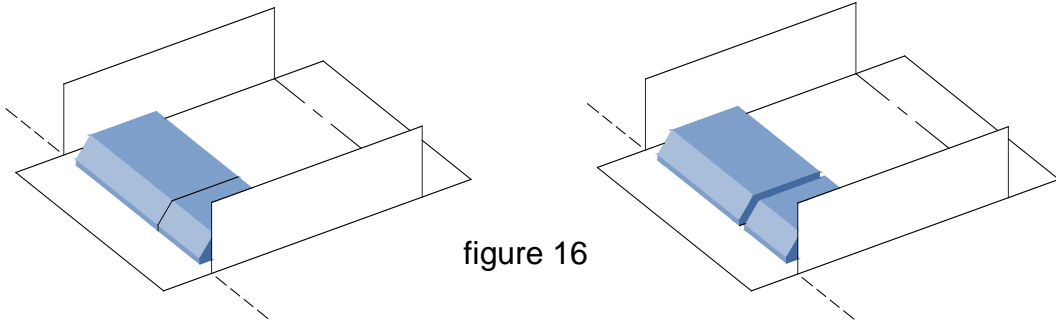

figure 16
- 2) Choose and insert one or more of the short clamp bars as shown in (fig. 16) below for the opposite bends. (This method allows for deep depth boxes.)